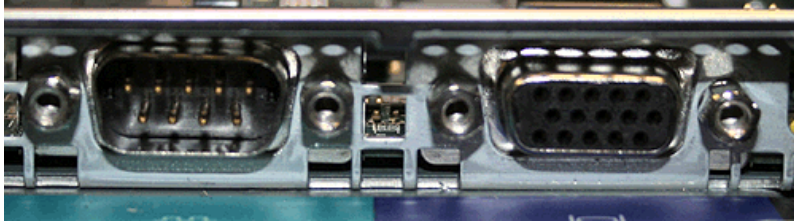

Figure 277. Serial and video ports on the SAN Volume Controller 2145-8G4
18. Remove the four stand-off screws from by the serial and video I/O ports at the rear of the node. Figure 277 on page 253 shows the location of the stand-off screws.